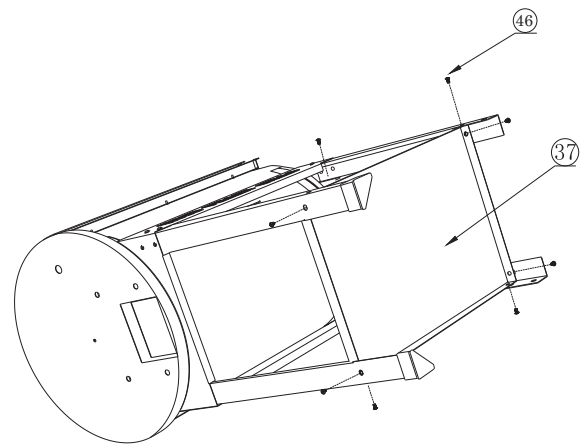

Figure 2
4. Use Bolts (46) to attach the Bottom Plate (37) to the 4 legs. As shown in Figure 2.